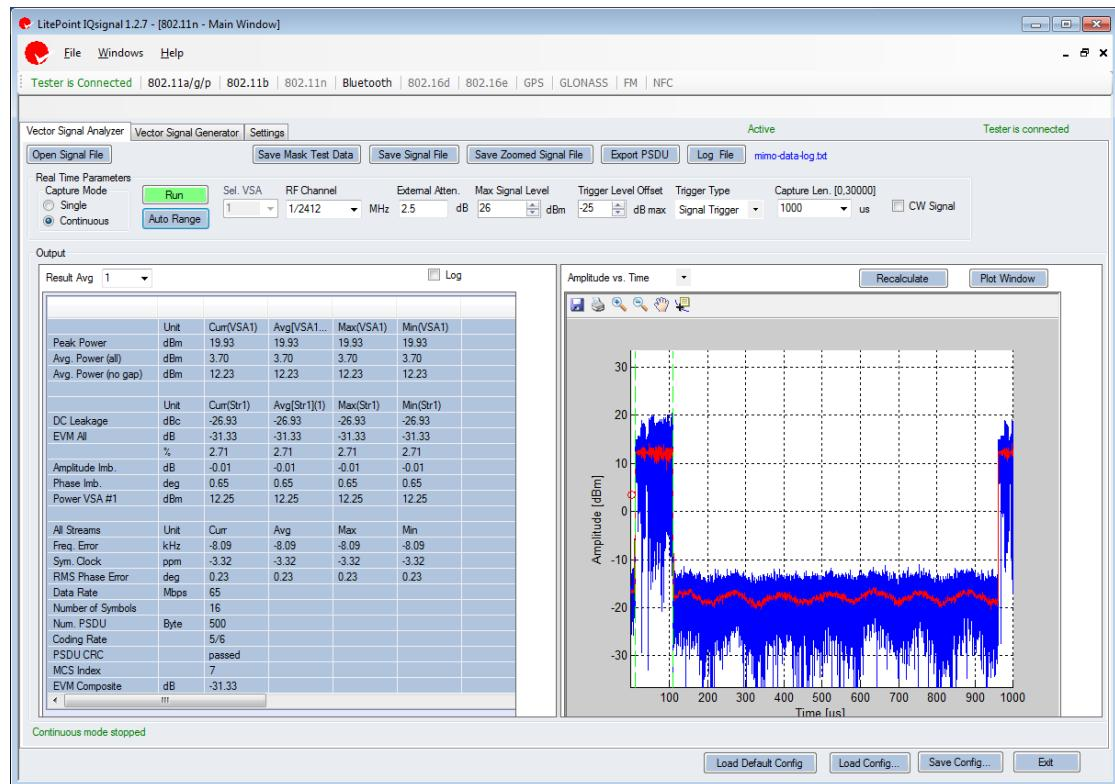

Figure 5-5. RF Performance Test by IQView
- In case of a wireless tester IQView is used to test the DUT's RF performance on channel 1 at a data rate of 11n MCS7, the test results will look like the ones in Figure 5-5.